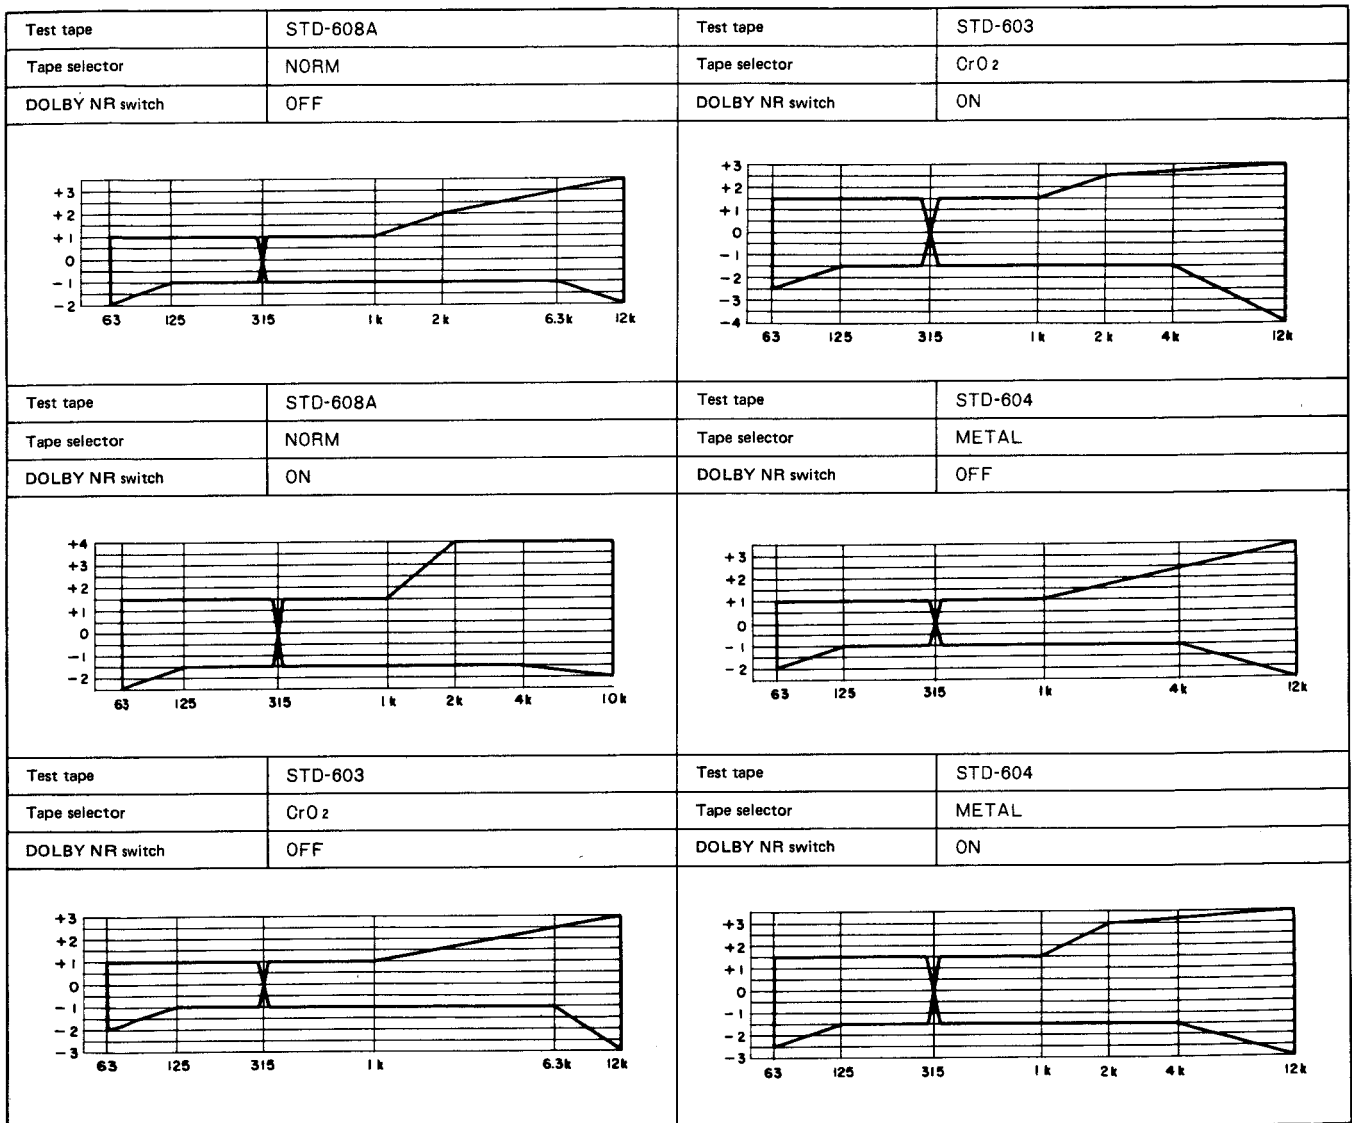

Fig. 10-5 Overall frequency
• Change the test tape and the DOLBY NR switch position and check that the frequency response zone indicated in Fig. 10-5 is satisfied. If the response curves are unsatisfactory, the 6.3kHz playback level can be readjusted to within +1.0 ± 0.5dB of the 315Hz level.